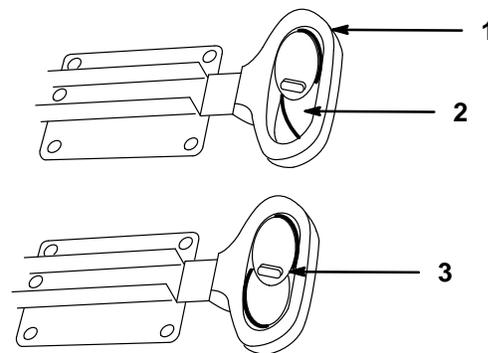

**Figure 17**
4. Place hedge trimmer upside down on workbench and remove the blade cover screws and the blade cover (Fig. 17).
11. Replace blade cover and secure it with the screws removed previously (Fig. 17)